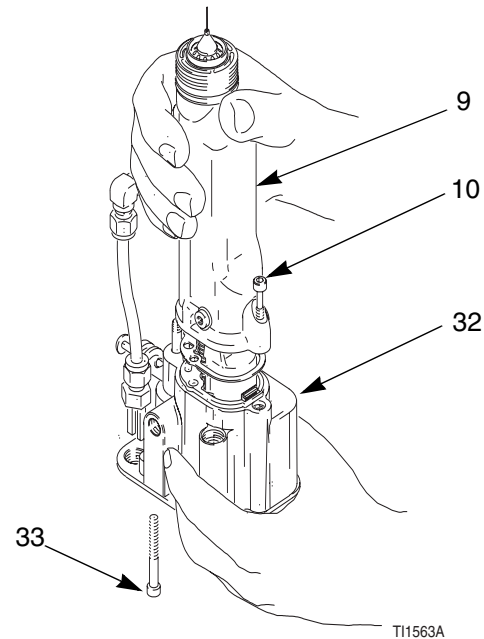

Fig. 28. Barrel Removal
2. Remove the air cap, page 34. Remove the gun shroud (2).
3. Carefully loosen the fluid fitting nut (20). Pull the tube (19) out of the fitting (23). Make sure both ferrules (21, 22) and the nut stay with the tube.
4. Remove the jam nut (28) and actuator arm (29). See page 38.
5. Loosen the three screws (10, 33). See FIGURE 28.
6. Hold the gun body (32) with one hand and pull the barrel (9) straight off the body. See FIGURE 28.